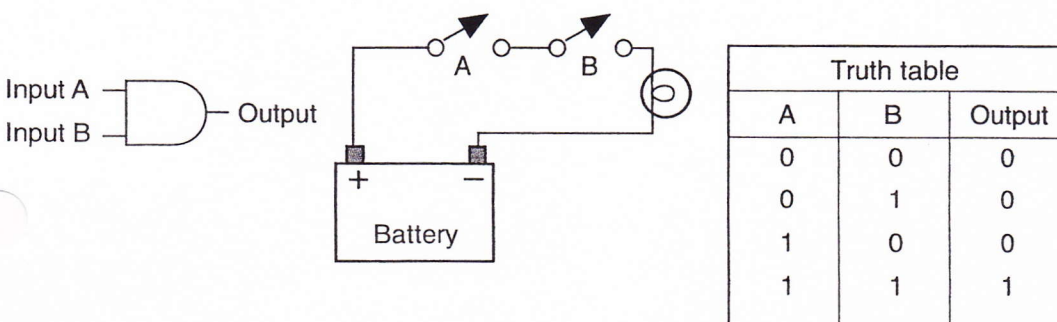
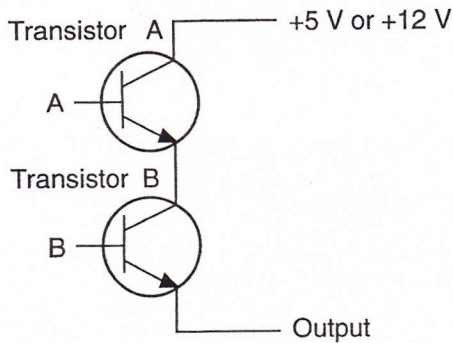

FIGURE 15-28 AND gate symbol and truth table. The AND gate operates similarly to switches in series.
FIGURE 15-29 AND gate circuit.
- 2. AND gate:** The AND gate will have at least two inputs and one output. The operation of the AND gate is similar to two switches in series with a load (Figure 15-28). The only way the light will turn on is if switches A and B are closed. The output of the gate will be high only if both inputs are high. Before current can be present at the output of the gate, current must be present at the base of both transistors (Figure 15-29).